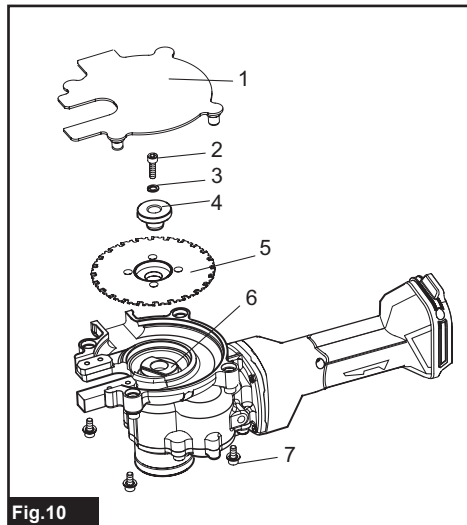

Fig.10
- Fig.10: 1. Tipped Saw Cover 2. Bolt 3. Washer 4. Tipped Saw Guide 5. Tipped Saw 6. Output Gear (convex part) 7. Tipped Saw Cover Retaining Bolt